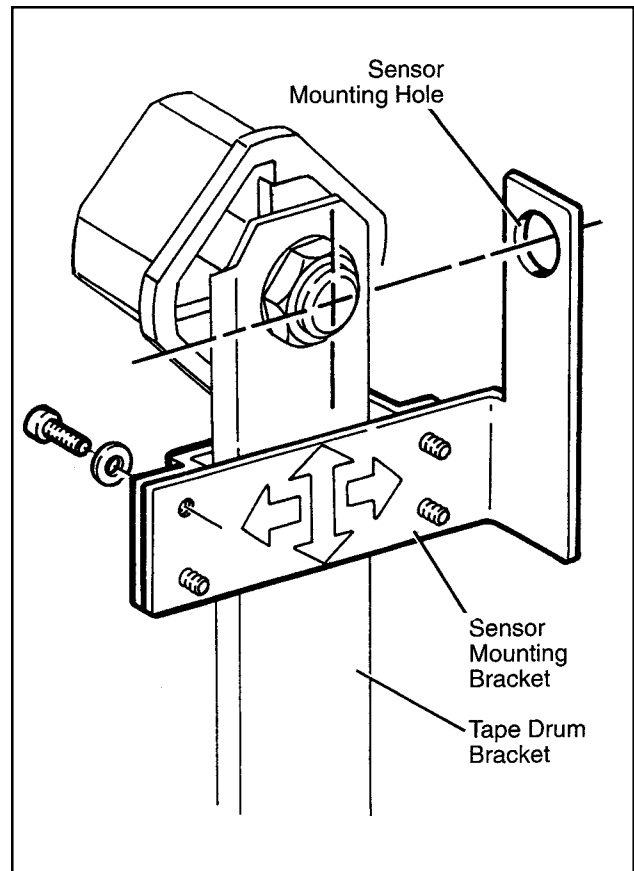

Figure 2-22
1. Attach sensor mounting bracket to tape drum bracket as shown in Figure 2-22. Mounting bracket clamp should be centered on tape drum bracket and sensor mounting hole centered on tape drum.